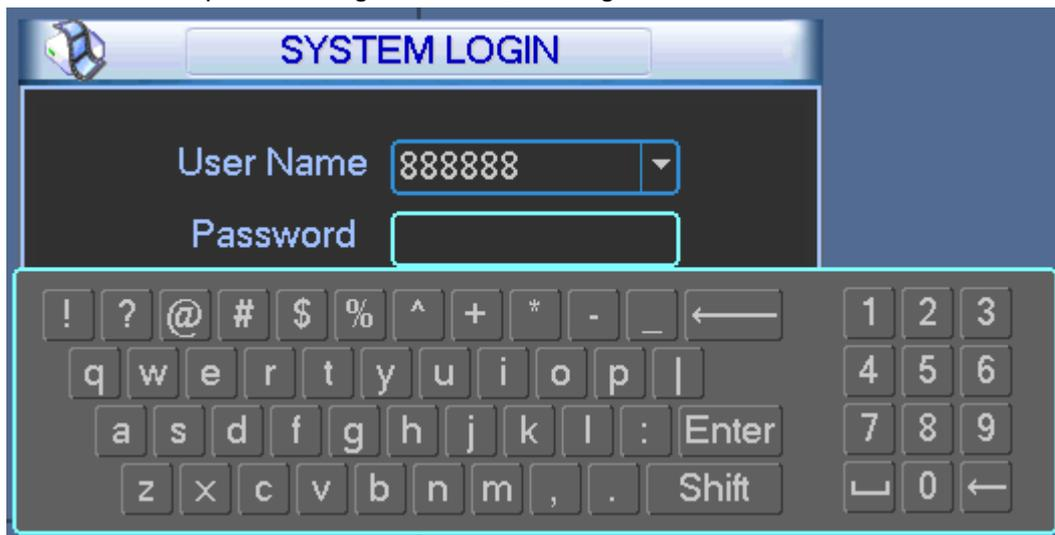

Figure 2- 2
Step 3. User enter username and password, then click OK. System will enter general setup interface. See Figure 2- 3.